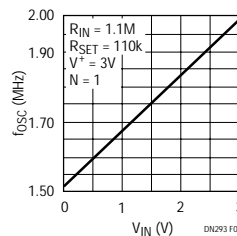

Figure 5. Output Frequency vs Input Voltage
Let  $V^+ = 3V$ ,  $f_{OSC(MAX)} = 2\text{MHz}$  for  $V_{IN(MAX)} = 3V$  and  $f_{OSC(MIN)} = 1.5\text{MHz}$  for  $V_{IN} = 0V$ . Solve for  $R_{IN}/R_{SET}$  by equation (3), yielding  $R_{IN}/R_{SET} = 9.9/1$ .  $R_{SET} = 110.1\text{k}\Omega$  by equation (4).  $R_{IN} = 9.9R_{SET} = 1.089\text{M}\Omega$ . For standard resistor values, use  $R_{SET} = 110\text{k}\Omega$  (1%) and  $R_{IN} = 1.1\text{M}\Omega$  (1%). Figure 5 shows the measured  $f_{OSC}$  vs  $V_{IN}$ . The 1.5MHz to 2MHz frequency excursion is quite limited, so the curve  $f_{OSC}$  vs  $V_{IN}$  is linear.